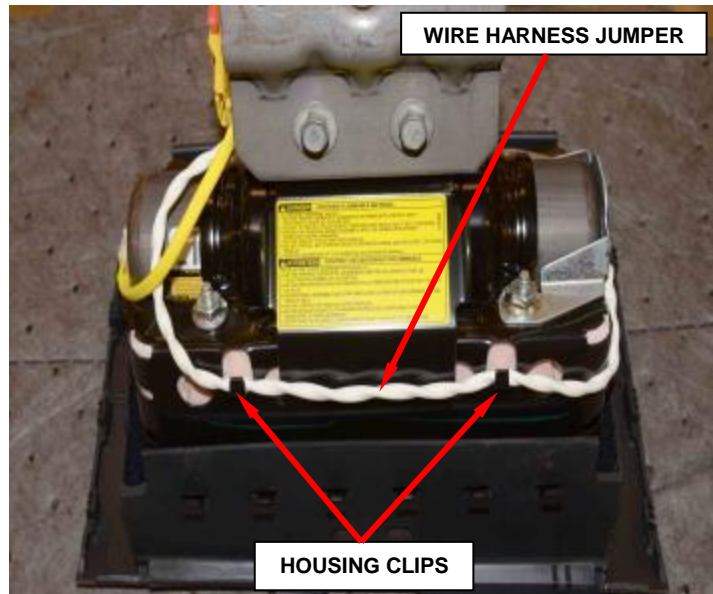

Figure 89 – Passenger Airbag Assembly
- b. Disengage the wire harness jumper from the housing clips in two places (Figure 89).